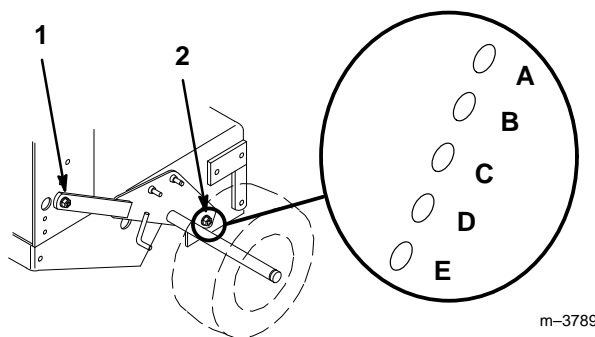

Figure 18
2. Loosen but do not remove the (2) axle pivot bolts and the (2) axle adjustment bolts (Fig. 18).
3. Place a jack under the rear center of the engine frame. Raise the back end of the engine frame up enough to remove front (2) axle adjustment bolts (Fig. 18).
4. Raise or lower the engine frame with the jack, so that front (2) axle adjustment bolts can be installed in the desired hole location (Fig. 18). A tapered punch can be used to help align the holes.
5. Tighten all (4) bolts and lower the unit.